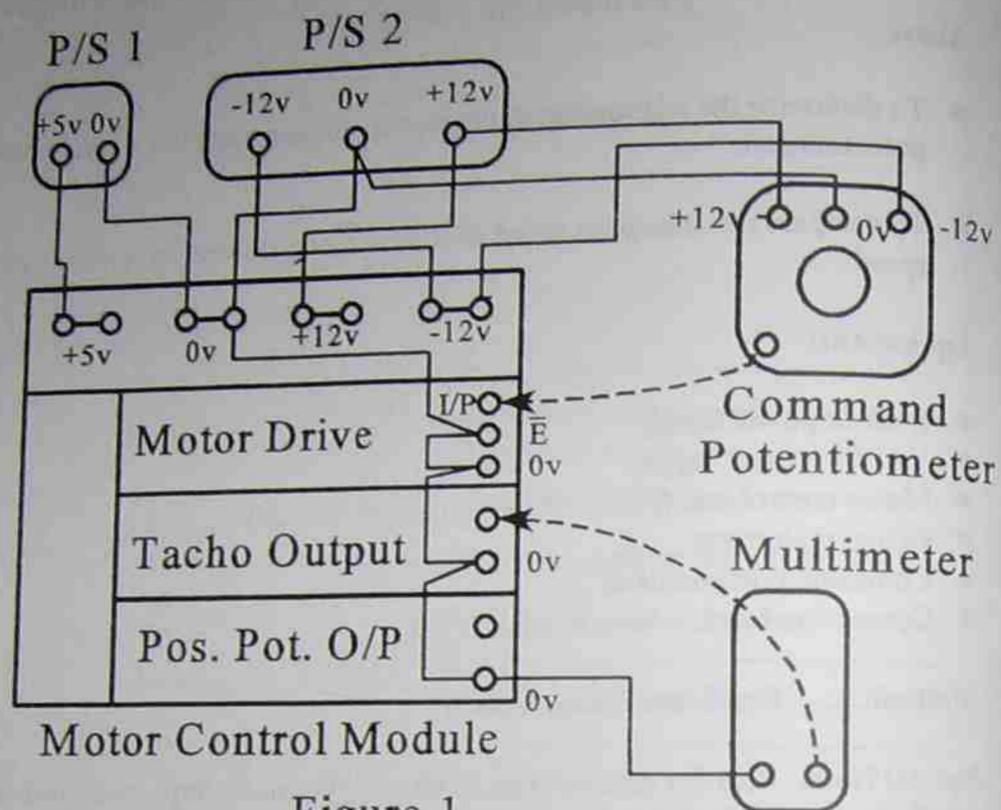

Figure 1
- Connect the circuit as shown in Figure 1. (Have the teacher check the circuit)